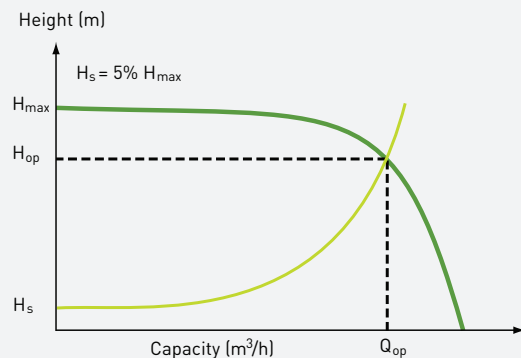

Figure 3: Hydraulic system with low static head
- In a low static head system most of the energy is lost as friction (Figure 3). This type of system is also referred to as friction loss dominant.